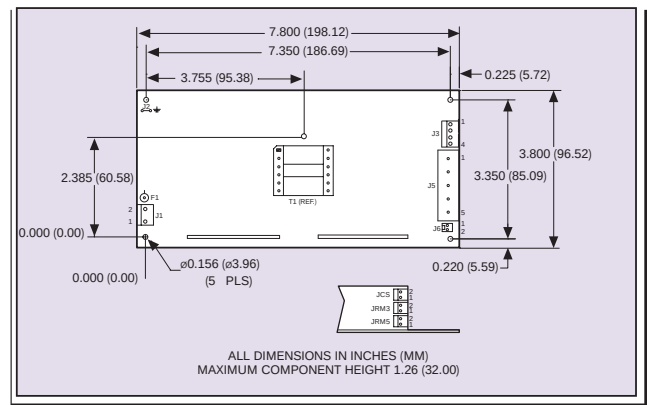

Figure 2 - Mechanical Drawing
The NLP150L-96Q5366 power supplies are of open-frame type measuring 3.8" (W) X 7.8" (L) X 1.26" (maximum component height). Figure 2 shows the mounting hole locations.
Referred to Figure 2, five mounting positions are required. The power supplies also require a minimum mounting stand off of 0.25 inches. The mounting hardware for the mounting hole in the middle of the power supply needs to be non-conductive. A plastic insert with one end snapped in the power supply and the other end screwed down or snapped in the chassis should be sufficient.